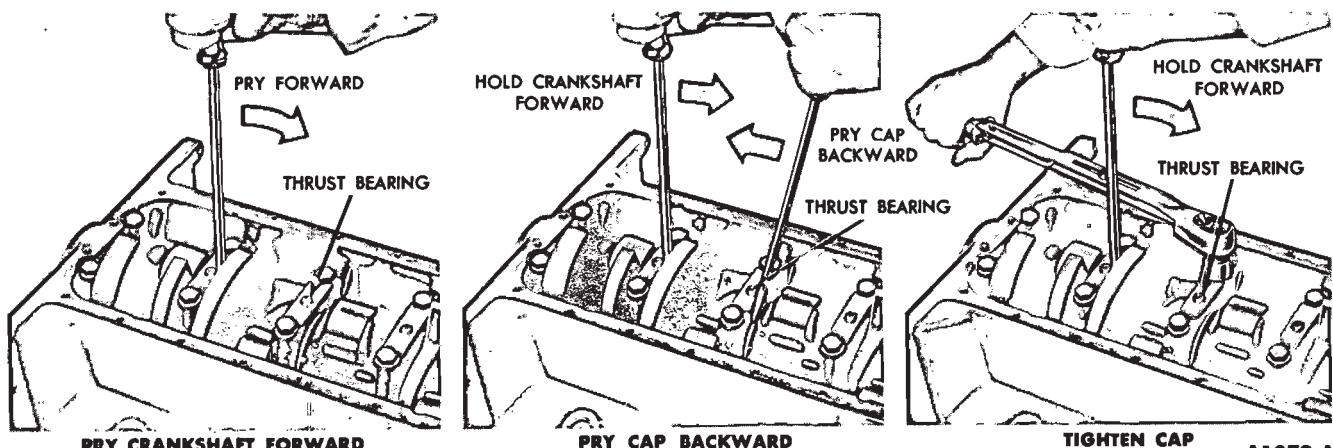

FIG. 50—Thrust Bearing Alignment
17. Pry the crankshaft forward against the thrust surface of the upper half of the bearing (Fig. 50).
to specifications (Fig. 50).